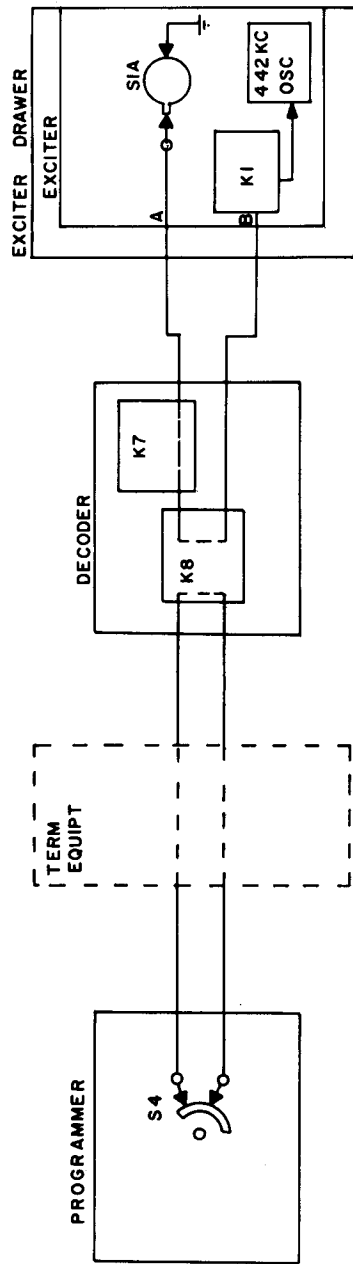

Figure 3-1. Remote Frequency Selection
a. FREQUENCY SELECTION (Refer to figure 3-1). - The Schematic Diagrams figures 6-3 and 6-4 show the system set up for an operating frequency of 442KC, in the CW